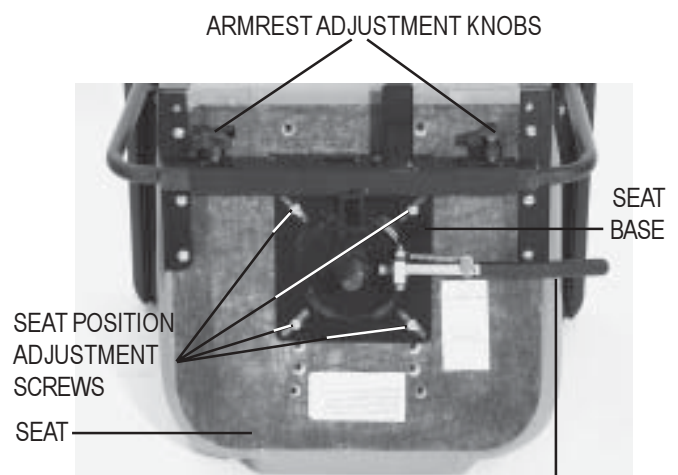

FIGURE 15. SEAT ADJUSTMENTS
2. Use a 7/16-in. wrench to remove the seat position adjustment screws. See figure 15.
1. Push down on the seat lock lever to unlock the seat. See figure 15.